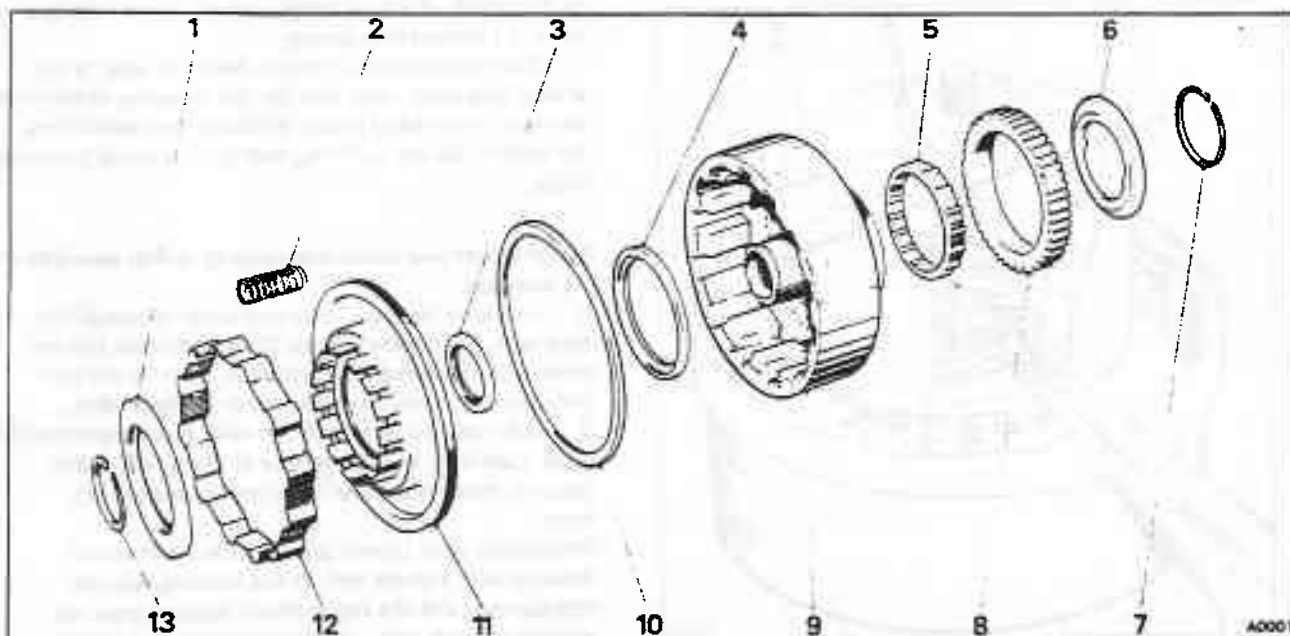

Fig. T18-9 Direct clutch and intermediate sprag assembly
2. Remove the retainer (see fig. T18-9).